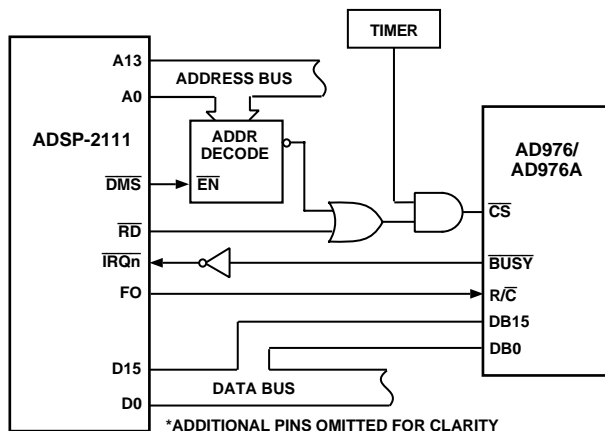

Figure 23. AD976/AD976A to ADSP-2111 Interface
Figure 23 shows an interface to the ADSP-2111 signal processor. In this example, \overline{CS} is being used to control conversions and is generated by an external timer. A conversion is initiated each time the timer output goes low as long as you are not reading from the AD976/AD976A and while the Flag Output (FO) pin of the ADSP-2111 is low. When a conversion is complete, the \overline{BUSY} line will return high. With the \overline{IRQn} pin programmed to generate an interrupt on a high-to-low transition, an interrupt will occur at the end of each conversion. The 16-bit result of the conversion can be read from within the interrupt service routine by first forcing FO high, then performing a read operation with the AD976/AD976A.